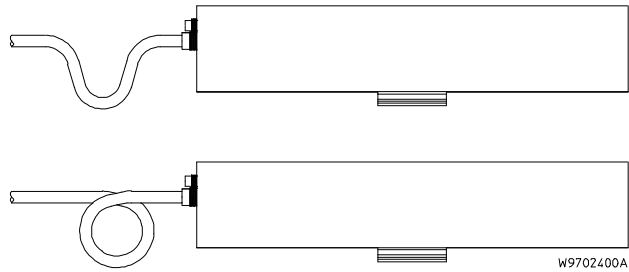

Figure 7: Examples of Drip Loops
Use of "drip loops" is recommended on the wiring outside of the rear end cap. See Figure 7.
3. Install the 3/8-inch NPT plug provided in the unused, small top center NPT hole. Refer back to Figure 7.